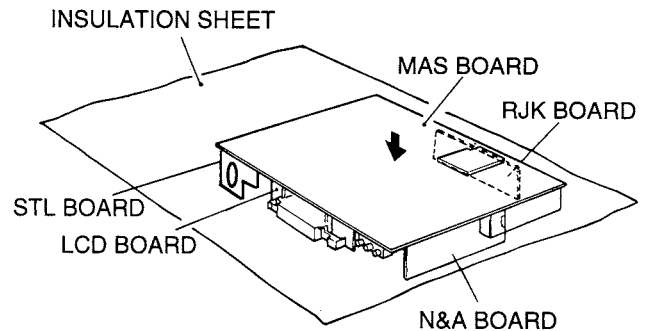

Fig. 3
**2-2. Procedure to set the MAS board to the servicing position (Fig. 3)**